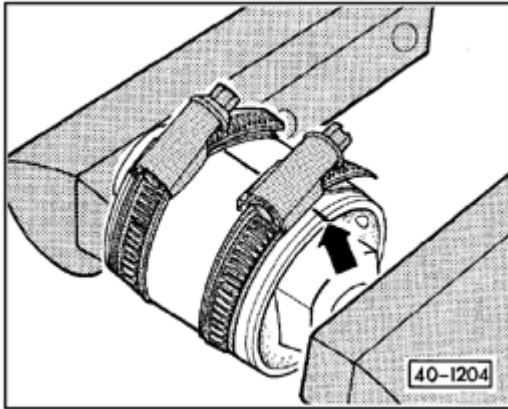

Fig. 9 Lower control arm rear bonded rubber bushing, pretensioning
- ◆ Pretensioning ⇒ Fig. 9
- Press pretensioned bonded rubber bushing (\Rightarrow Fig. 9) into installation position (\Rightarrow Fig. 8) far enough so that a clearance of 371 ± 1 mm (14.60 ± 0.039 in.) exists between front rubber bushing inner tube and rear bonded rubber bushing inner tube \Rightarrow Fig. 11 .